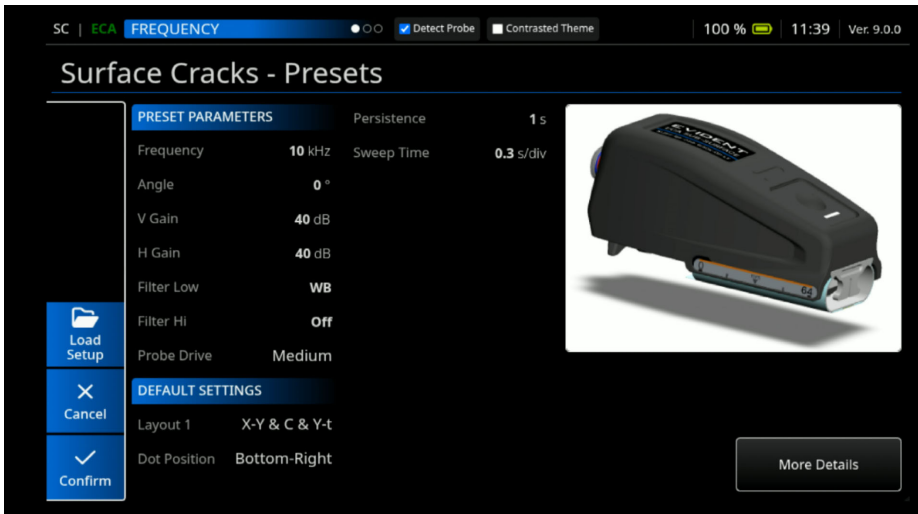

Figure 4-41 Sub-Surface Corrosion Presets with ECA
2. Press **Confirm** to launch the SUBS-64-020-1k50k-DP-L base use case (See Figure 4-41 on page 151).